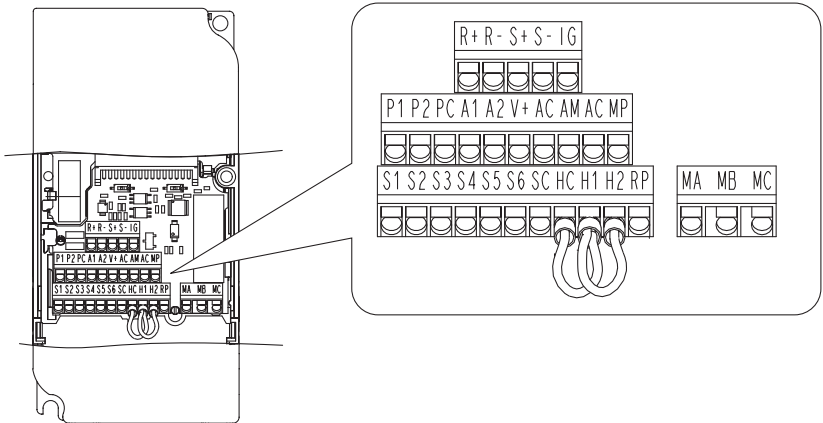

Figure C.4 Control Circuit Terminal Block Configuration
3. When using RS-485 communication, connect S+ to R+, and S- to R-, on the control circuit terminal board. Refer to Figure C.4.